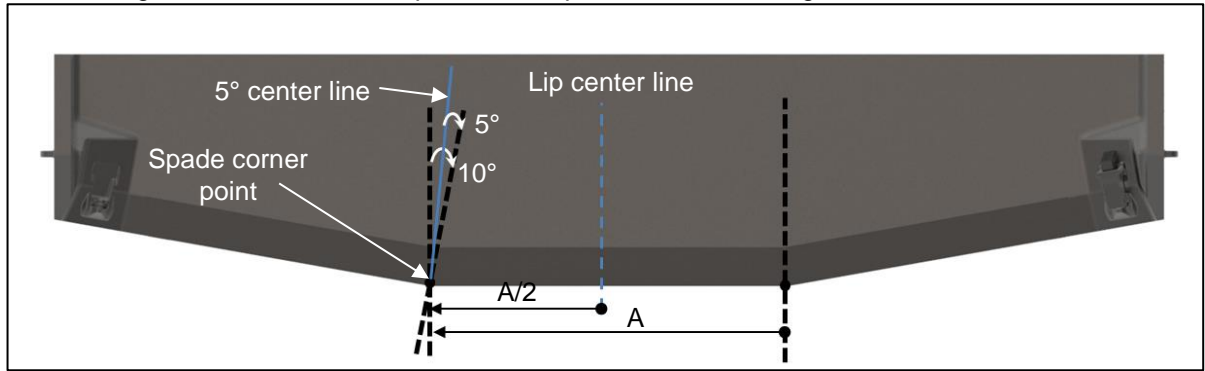

Figure 18 Transition boss mark up
2.12.3. Mark 5 degree center line at the spade corner point as shown in Figure 18.